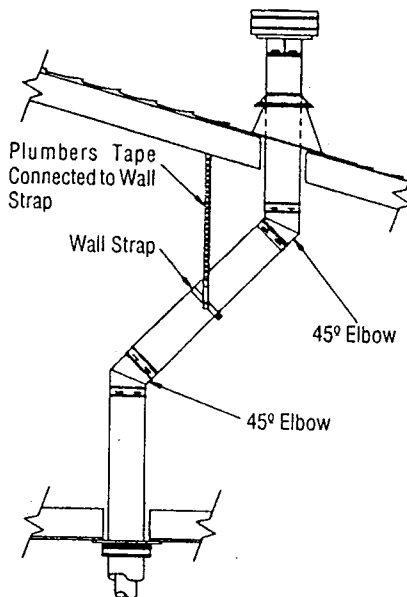

**Figure 22**
2. Venting termination shall not be recessed into a wall or siding. For buildings with vinyl sidings, a Vinyl Siding Standoff (Dura Vent Part No. 950) should be installed between the vent cap and the exterior wall (Figure 22). Attach the Vinyl Siding Standoff to the Horizontal Vent Termination. The Vinyl Siding Standoff prevents excessive heat from possibly melting the vinyl siding material.